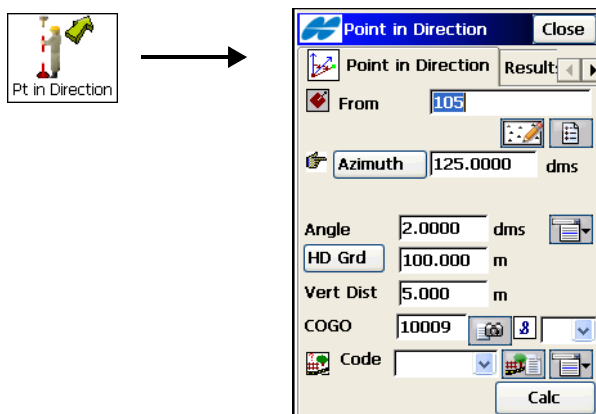

Figure 10-4. Point in Direction
1. On the **Point in Direction** screen (Figure 10-4) enter the *From* point name (known point), the azimuth set by value or as the direction to another known point, the angle offset from the azimuth line, the distance offset along the angle offset line and the height offset. Also select a name and a code for the resulting point (in the direction specified by azimuth and angle offset).